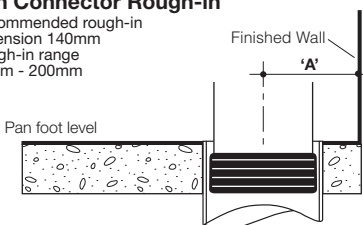
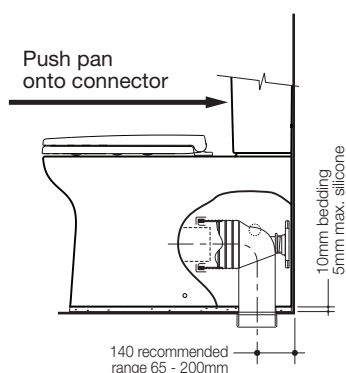
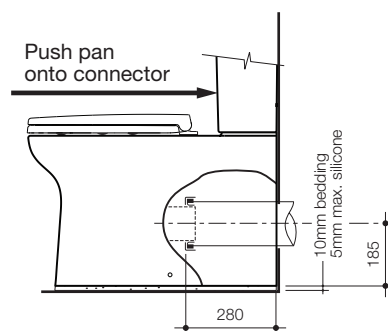

Fig. 2
Fig. 9
Fig. 10
The recommended set-out for 'S'-Trap installations is 140mm from the finished wall with set-out flexibility for existing soil pipe positions ranging from 65mm-200mm with the Uniconnector supplied as detailed in Fig. 2.
- 2- Determine set-out "A" of existing drain line, as detailed in Fig. 2. Set-out range 65mm - 200mm. Recommended set-out for 'S' trap installation 140mm, as detailed in Fig. 9. For 'P' trap installation refer to Fig. 10.